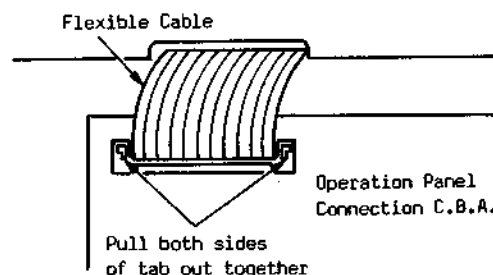

Fig. 8
- Disconnecting the flexible cable to the trap connector P1504 and P1508 on the tapedeck (Fig. 8).
- Remove the flexible cable carefully (See Fig. 8).